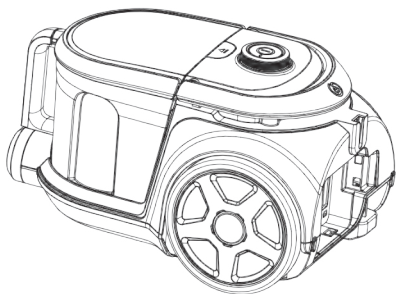

Fig. 15
- 1) As in fig.15, press the outlet lock to open the outlet board.